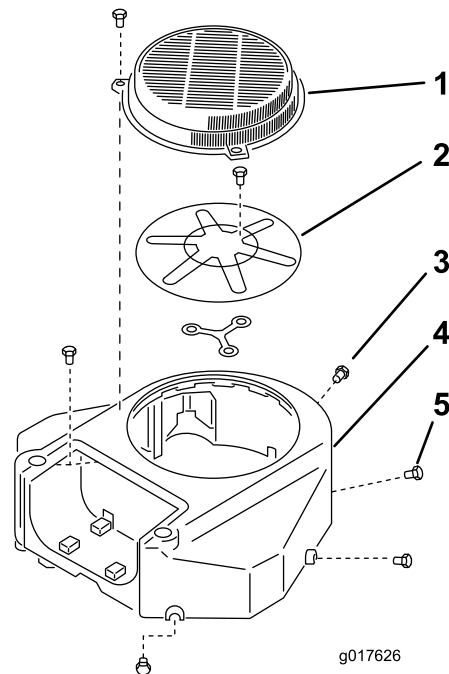

Figure 59
3. Remove the air intake screen and fan housing (Figure 59).
5. Install air intake screen, recoil starter and fan housing (Figure 59).